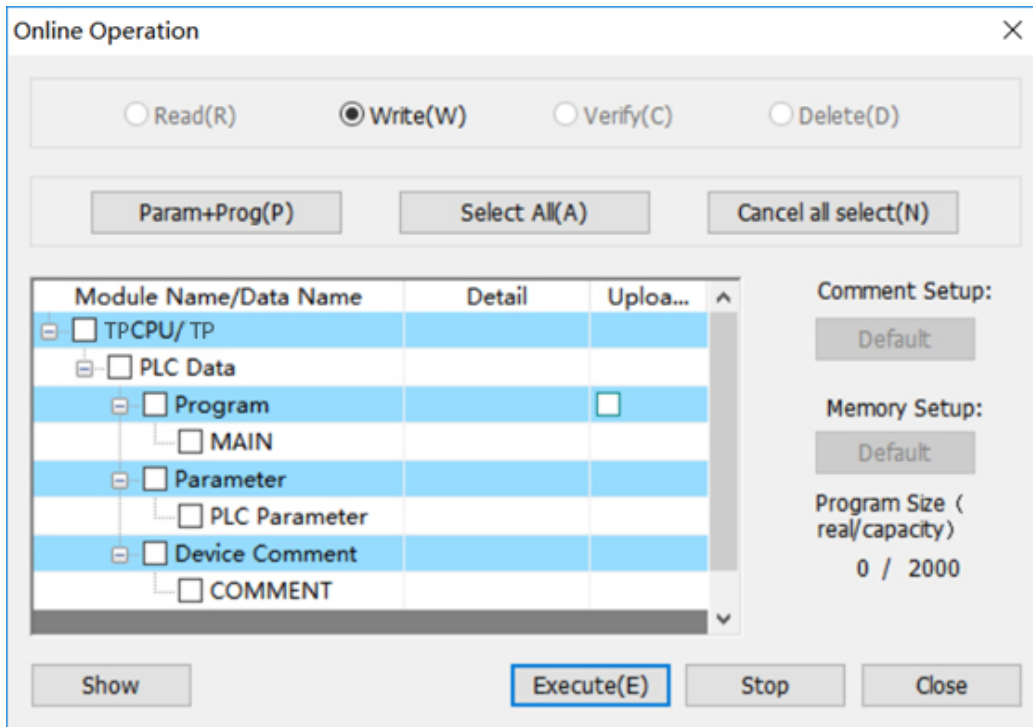

Figure 5-8
- The download window as Figure 5-8 shows: